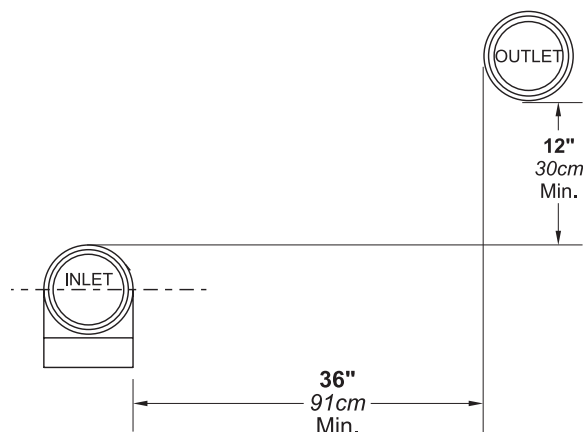

Figure 8. Minimum Venting Distance
7. If the boiler or water heater uses ducted combustion air from an intake terminal located on the same wall, see Figure 6 through Figure 8 for proper spacing and orientation.
The manufacturer's side wall combustion air terminal must be used when the heater takes air from a side wall. (See Figure 7.) Contact manufacturer for AL29-4C termination fittings. Consider the following when installing the terminal. (See Figure 7 and Figure 8).
5. Multiple vent kits should be installed such that the horizontal distance between outlet group and inlet group is 36" (90 cm). (See Figure 8.)